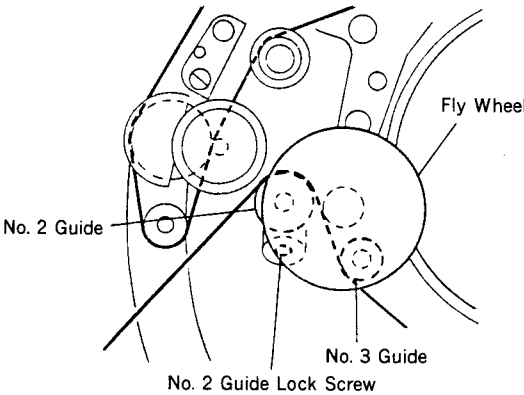

Fig. 1
- (1) Remove the Fly Wheel referring to Section 4-1.
- (2) Loosen the No. 2 Guide Lock Screw and turn the No. 2 and No. 3 Guides counterclockwise to free the tape path at the entrance side. (fig. 1 and 2)